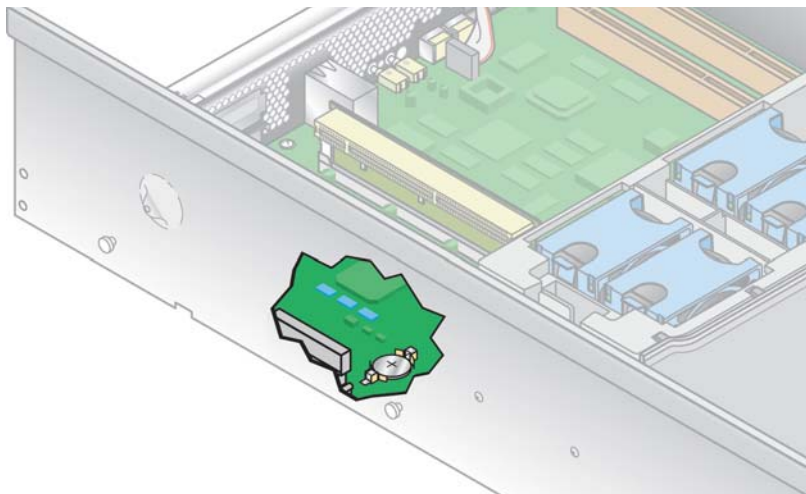

FIGURE 5-33 Removing the System Battery
3. Remove the system battery by sliding it back and prying it from the holder (see FIGURE 5-33 for the location).